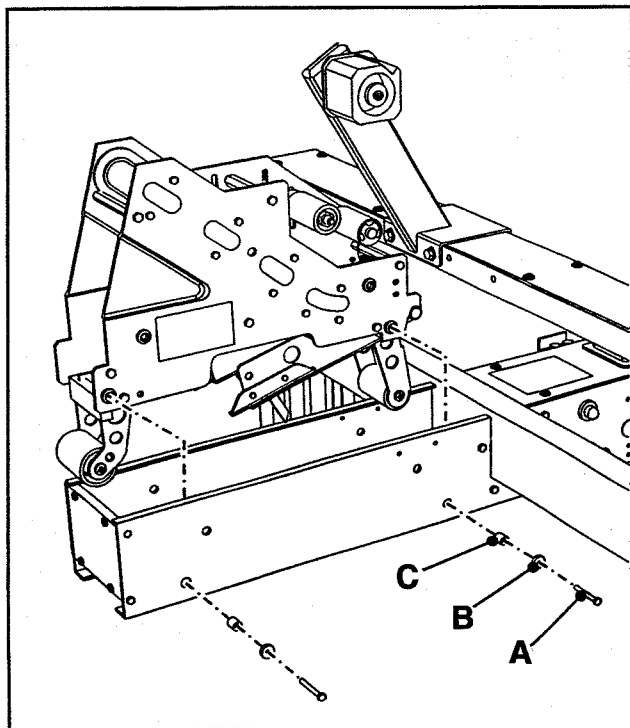

Figure 5-1 – Upper Taping Head Mounting
1. Remove upper taping head. Loosen and remove four (each) M6 x 25 flat head screws (A), special washers (B) and spacers (C) that fasten head to upper assembly as shown in Figure 5-1. **Support or hold taping head to keep it from falling when screws are removed.**